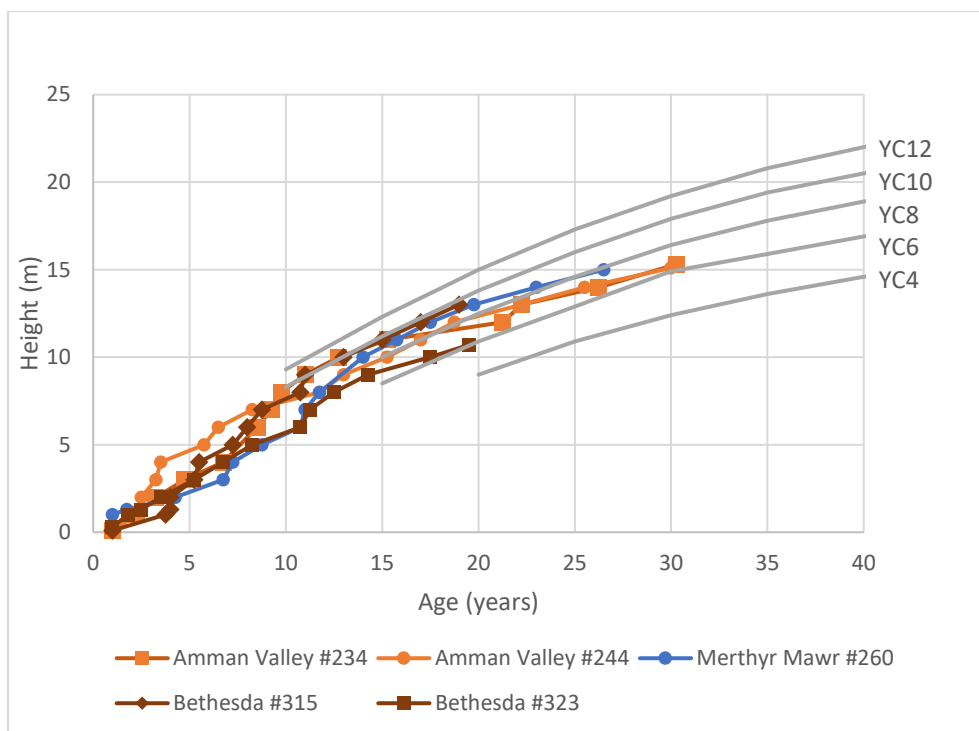

Figure 14: Estimated yield class for three stands in Wales
In the UK, site yield class (YC) models are used to estimate the potential yield of a stand in  $m^3/ha$  for each species on poorer and better quality sites – so a poor site might give an accumulation rate of  $4 m^3/ha$  at maximum growth rate while a good site with the same species could give  $12 m^3/ha$ . These site-based models work on the ‘top height’ of the stand – the average height of the 100 largest diameter trees). Unfortunately, the lack of interest in birch as a timber species means that birch is grouped in with ash and sycamore and the YC model is generally considered rather crude. Nevertheless, given this model is widely used in forestry it is useful to have some idea of how birch stands in Wales perform in terms of yield class. The average heights of the trees measured in the EIP tapping trials are very similar at 15.8 to 16.9 for stands estimated as around 30 years old. This gives yield class of 8-10 which is corroborated in Figure 14 which plots the ring count at 1 m intervals up the tree for the felled trees. Yield class 8-10 for birch is also reported for young natural downy birch stands in Ireland so this seems reasonable.